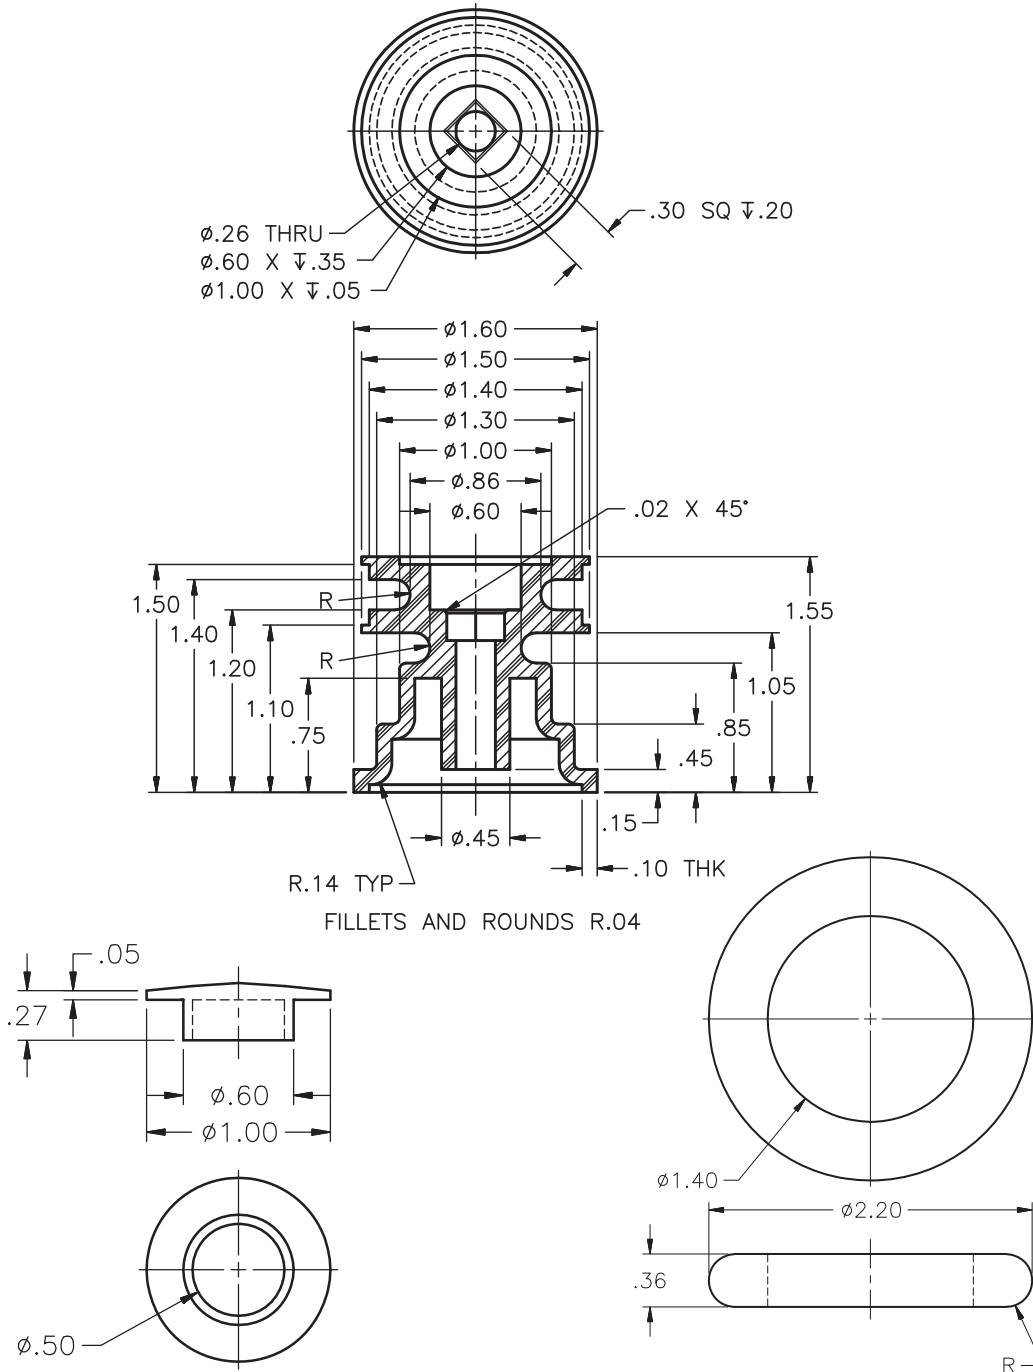

Fig. 43-19
4. The bumper assembly for a bumper pool table is shown in Fig. 43-18. Use the dimensions of the three parts shown in Fig. 43-19 and use the **REVSURF** command to create three mesh models. Note that the bumper support has a square hole. Assume the hole to be circular. After you have finished modeling the three parts, place them in an isometric view. View the models in every 3D visual style. Save your work as **bumper.dwg**.